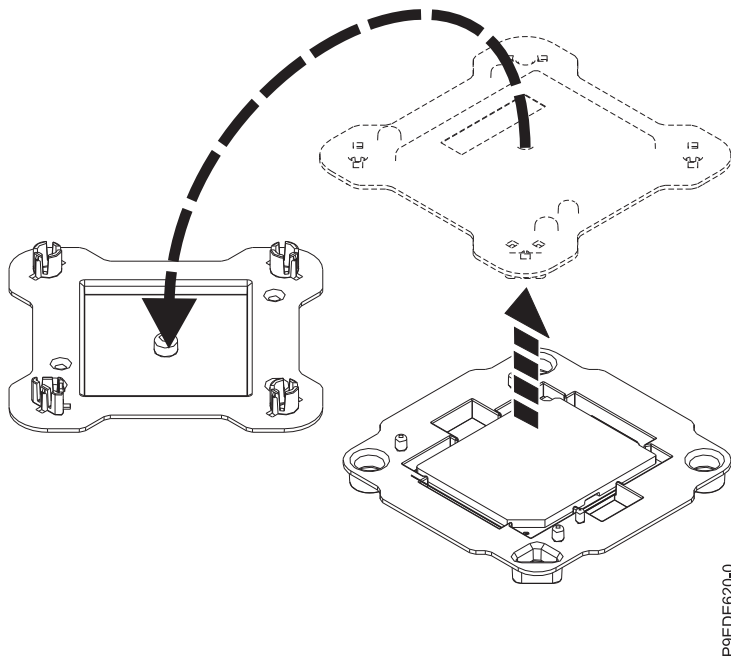

Figure 63. Opening the system processor module packaging
2. Open the packaging of the new system processor module and place the cover upside down next to the tray, as shown in Figure 63 on page 56. The cover is used for the system processor module that you are replacing.